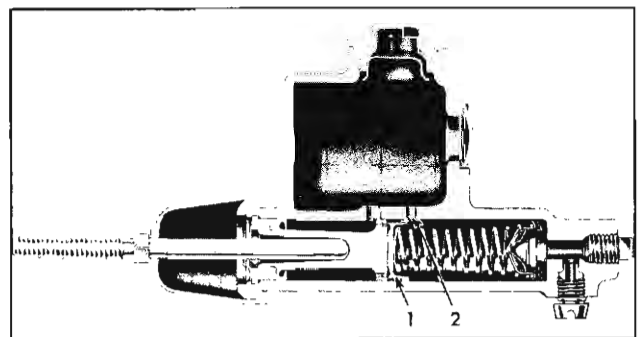

Fig. 22—Main Cylinder
5. Check clearance between the edge of the primary cup and the center of the compensating port, (fig. 22). To check this clearance, proceed as follows: